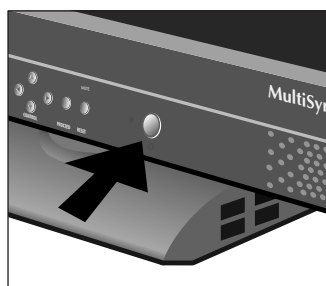

Figure I.1
8. Turn on the monitor (**Figure I.1**) and the computer.